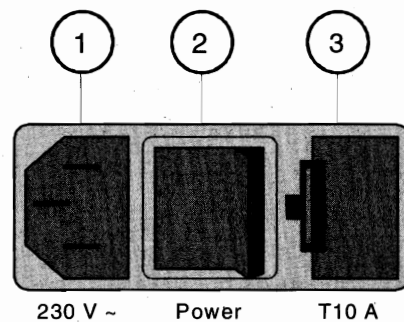

Fig. 2.1 Mains connection, power-on switch, and fuse unit
Connection unit for mains cable ① with power-on switch ② and fuse unit ③ (Fig. 2.1).